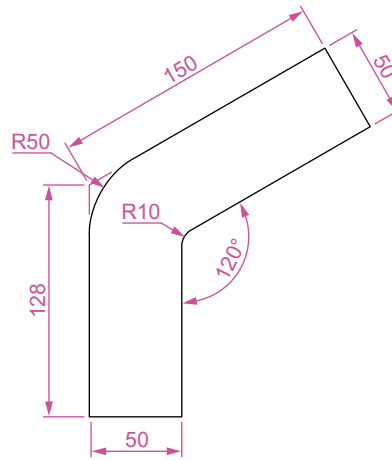

Fig. 17.22 Second example – 2D outlines in 3D space. Outline to be extruded
1. Place the drawing area in the **ViewCube/Front** view, **Zoom** to **1** and construct the outline (Fig. 17.22).